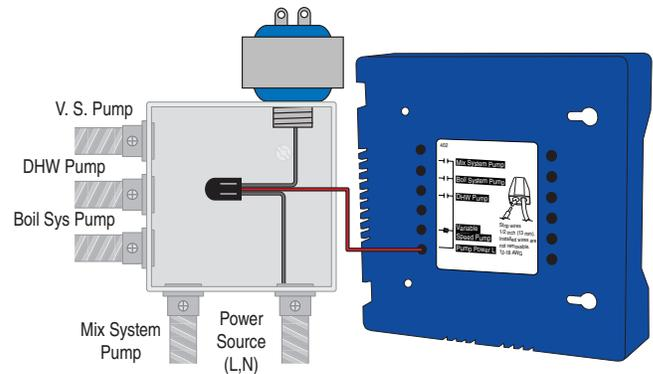

Figure 3 - Connect Line Voltage (Hot)
3. Connect the 115 V (ac) Line Voltage (L) wire to the red Pump Power (L) wire on the House Control. This is shown in Figure 3.